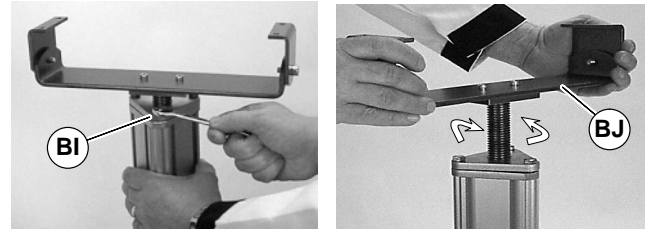

Figure 40
2. If installed, remove brace fastening hardware (BF) from the conveyor. Allow brace(s) to rest against the post of the stand.
3. Remove fastening hardware (BG) from the conveyor or support (BH).
4. Raise conveyor off from conveyor support (BH) by adjusting temporary stand (BE) upward.
5. Loosen three post bolts (BI of Figure 40). Adjust conveyor support (BJ).